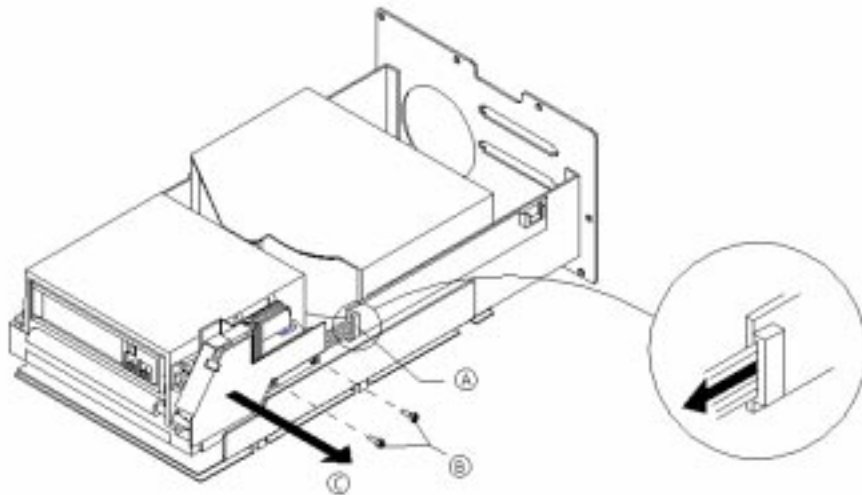

FIGURE 4-5 Drive Motor Assembly
8. Remove the drive handle motor assembly (on the right side of the drive). See FIGURE 4-5.